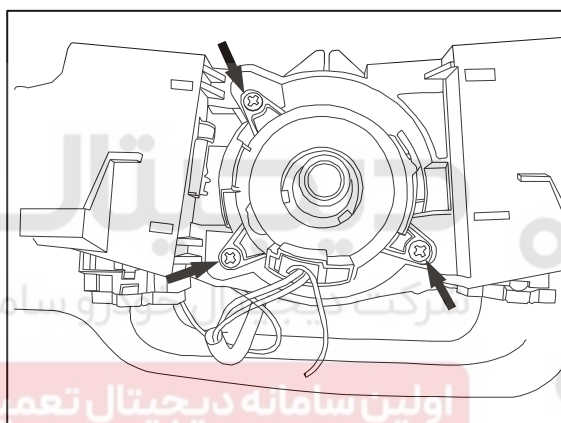

Figure 6-14 Disassembly of timer spring
2. Cut off the cable joint of timer spring, screw off the three fastening bolts and remove the timer spring as shown in Figure 6-14.